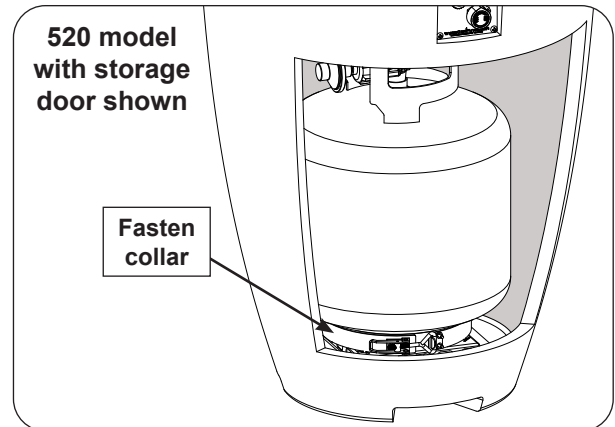
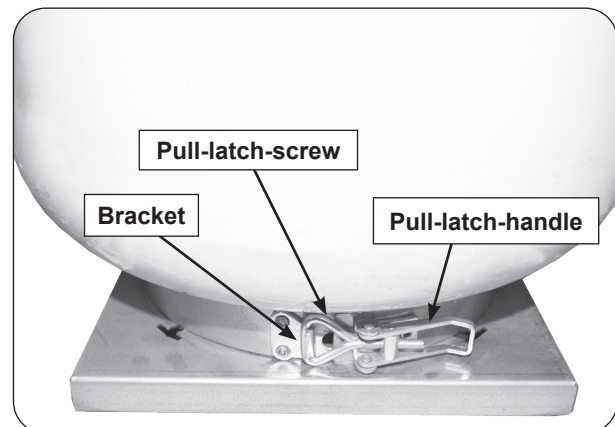

Fig. 20-2 L.P. Cylinder placement
Fig. 20-3 Secure L.P. cylinder
3. The propane cylinder (not included) is to be located inside the base of the unit, via the storage door opening. Insert the cylinder into the tank holder tray and secure it. See Fig. 20-2, Fig. 20-3, and the details below: